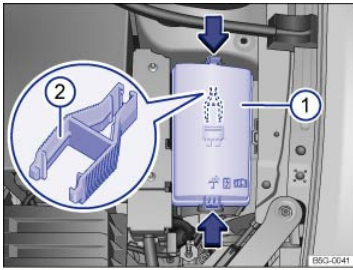

Fig. 165 In the engine compartment: Fuse box cover ① with tweezers ②.
- Press the release tabs in the direction of the arrows ⇒ Fig. 165 to unlock the fuse box cover ①.
In some vehicles, there are plastic tweezers for removing fuses on the inside of the fuse box cover ⇒ Fig. 165②.